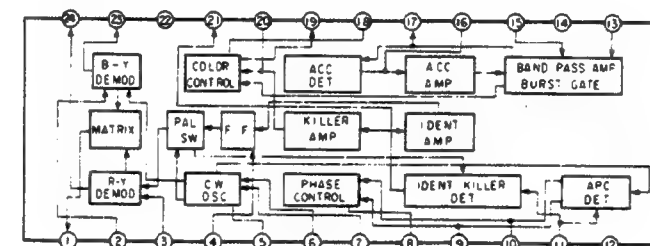

Figure 16
Block diagram of IC used for PAL demodulator is shown in Figure 16. This IC is designed for use of NTSC demodulator. When chrominance signal is fed to pin ② and pin ③, color burst signal to pin ⑪ and Burst Gate Pulse (B.G.P.) to pin ⑬, R-Y and B-Y color difference signals are obtained at output terminals pin ⑬ and pin ⑭. The demodulation axes of this demodulator are R-Y axis and B-Y axis. Variable capacitor CV1 is adjusted so that the phase angles between them are 90°. Local oscillator (4.43 MHz) is formed by CW oscillator in IC1 connected to the terminal pin ⑤, ⑥, ⑦, ⑧ and external circuit. The variable capacitor CV2 is adjusted so that the free run frequency may be subcarrier frequency 4.433619 MHz. Also APC (Automatic Phase Control) circuit is formed by APC section in IC1 connected to the terminal pin ⑨ and ⑩ local oscillator is controlled by APC circuit. The color difference signals demodulated by this IC are fed to low pass filter, where high frequency component is removed, then R-Y and B-Y color difference signals are obtained.